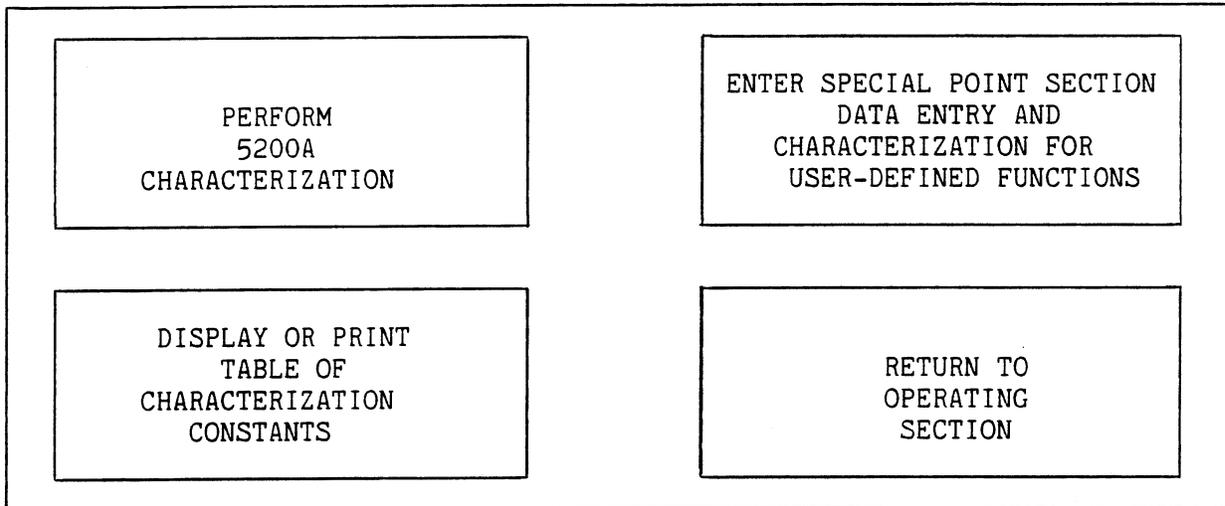

Figure 4-1. Main Calibration Menu
Touch-select **RETURN TO OPERATING SECTION**. The response allows you touch-select (1) to return to the start-up display of Figure 2-1, or to touch-select (2) to change your decision and return to the **Main Menu** display of Figure 4-1. Touch-select (2).
4. The Main Menu, shown in Figure 4-1, appears. Select **PERFORM 5200A CHARACTERIZATION**. This calls up a message referring you to this manual for setup instructions. Touch the display.